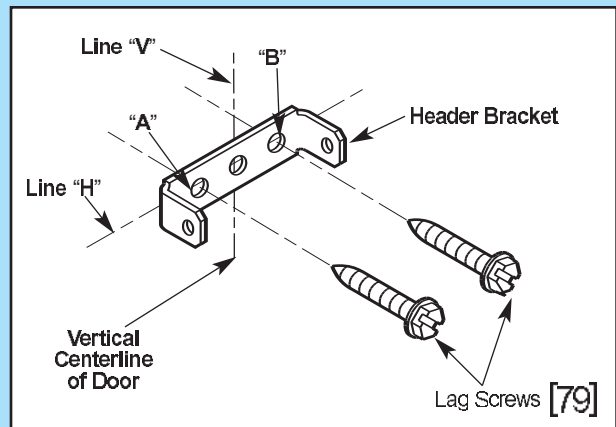
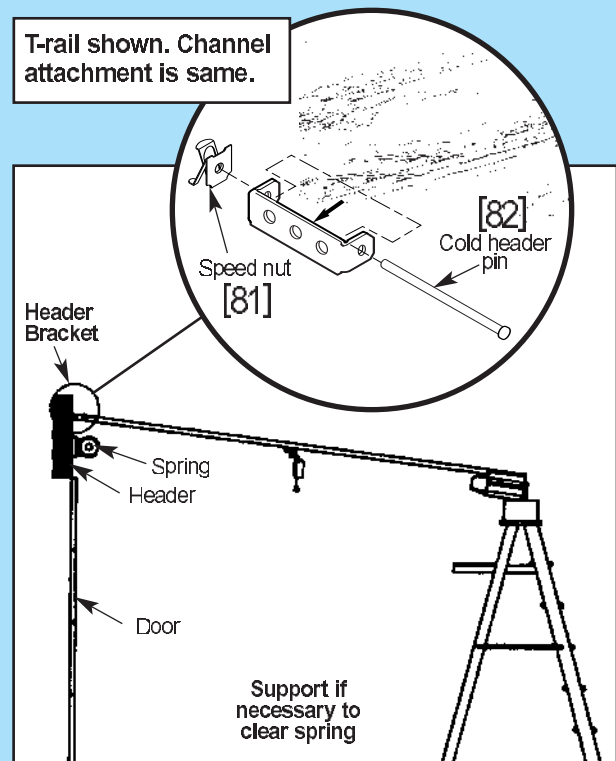

Fig. 2-3
Fig. 2-4
3. Install header bracket (Fig. 2-3)
- Fasten bracket to header using two (2) 1/4" x 2" lag screws [79].
4. Attach channel/rail assembly to header bracket (Fig. 2-4).